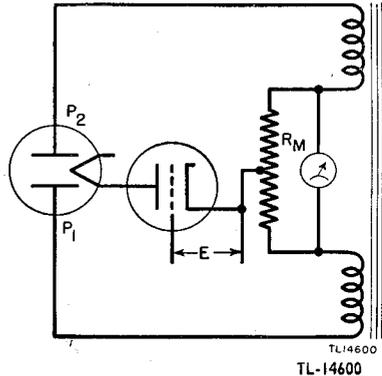

Figure 8. Tube Tester I-177, simplified mutual conductance test circuit.
*b.* If the vacuum tube to be tested is substituted for the fixed load resistance, and a fixed bias  $E$  is applied to the tube as in figure 8, the meter will still read zero because a vacuum tube under steady-state conditions acts like a fixed resistance.